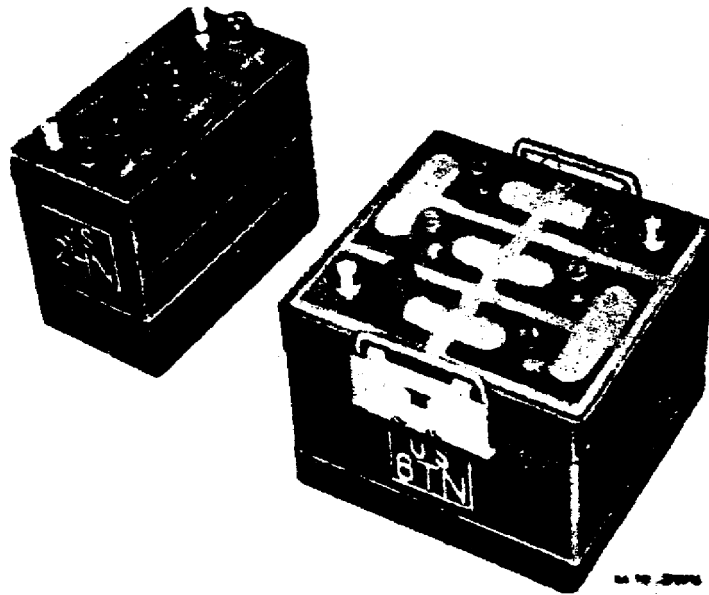

Figure 17. Batteries.
e. The top of each cell is fitted with a cell cover made from the same material as the container. Some batteries have cell covers made so that straps used to connect the cell terminals are exposed. On others, the connecting straps are covered and only two terminal posts are exposed. Regardless of the type of cover used, each cell cover is fitted with a vent plug which may be removed. to inspect the cell or to add water. To seal the battery after the cell cover is installed, the space between the edges of the cell covers and the container is filled with an acid-resistant battery sealing compound. Some form of seal is also used where the terminal post extends through the cover. The terminal posts are the output connections of the battery. The terminals are tapered and the positive terminal is slightly larger than the negative terminal (fig 17).